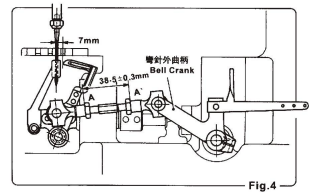

Fig. 4
(3) Looper
- Turn the pulley in the forward direction and adjust the belt crank so that the end of the looper is 7mm away from the needle center when the needle is in the most retracted position, as shown in (Fig. 4). The distance between the nut (outside) of looper connecting rod must be 38.5 ± 0.3mm (Fig. 4).